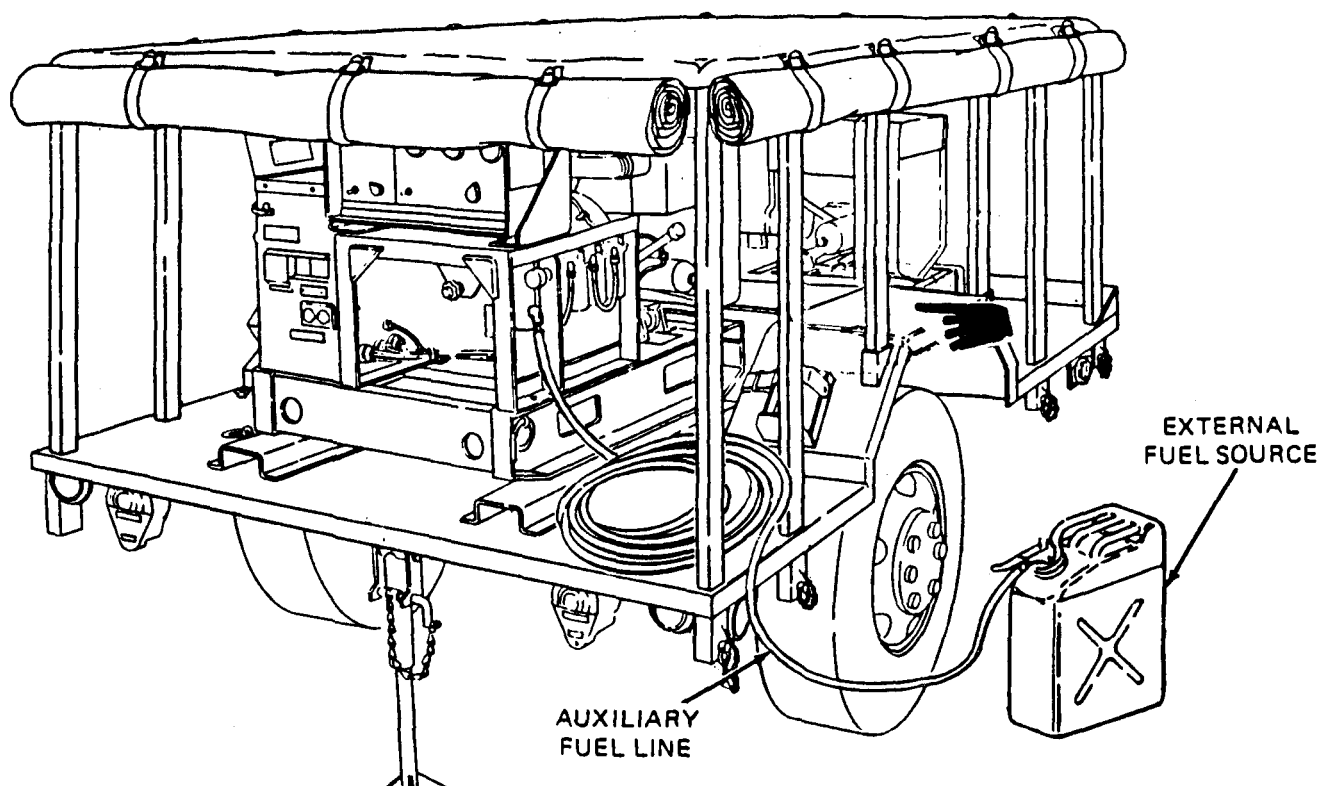

Figure 4-3. External Fuel Line Connection.
- (3) *Ground plate.* Ground power plant to a metal plate buried four feet deep. Ground plate should cover a minimum area of nine square feet.
c. *External Fuel Line Connection.* (See figure 4-3.) The power plant generator sets can be fueled from an external source such as a five-gallon fuel can or 55 gallon drum. This eliminates the need for frequent refilling of each generator's fuel tank during long intervals of operation.
- (1) Remove fuel can adapter and fuel pickup tube from storage locations on generator set and assemble by threading pickup tube into adapter.
- (2) Thread one end of auxiliary fuel line onto fuel can adapter fitting and tighten.
- (3) Connect free end of auxiliary fuel line to AUXILIARY FUEL CONNECTION. This connection is located immediately below control cubicle on right-hand side of generator set.
- (4) Insert fuel can adapter in external fuel source and secure by pressing down on lever.
- (5) Set MASTER SWITCH on control panel to PRIME AND RUN AUX FUEL position.